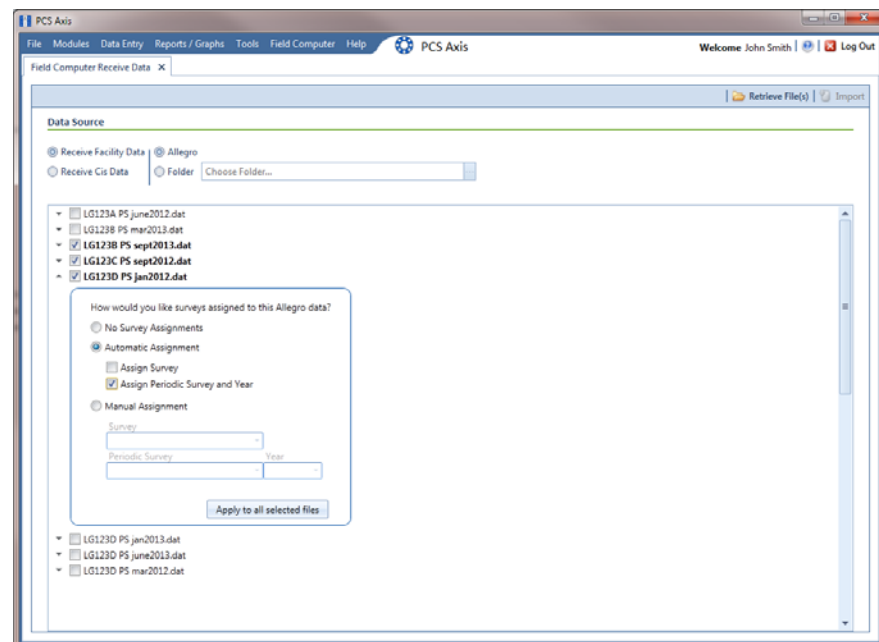

Figure 13-18. Field Computer Receive Data
- 5 Choose survey files you want to transfer from the Allegro. Click the check box for one or more survey files in the list of files available for selection (Figure 13-18, page 571).